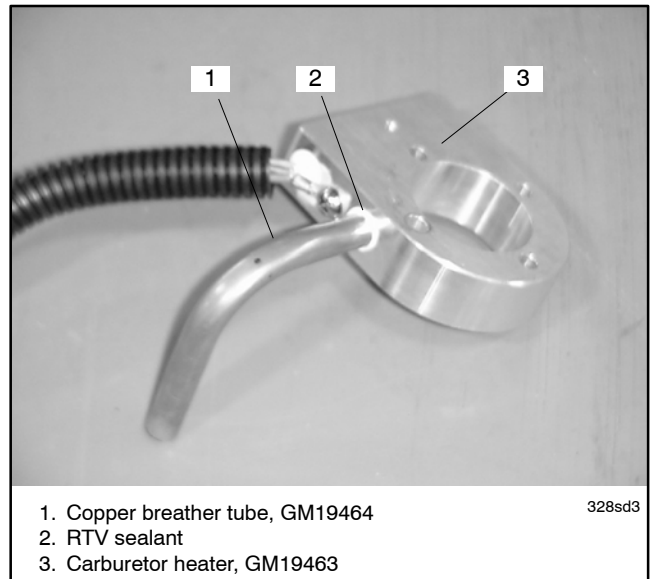

Figure 6 Heater with Copper Breather Tube
- 4.1 Apply RTV sealant to the end of the copper breather tube, GM19464 (included in the kit), and insert it into the drilled hole in the heater, GM19463. See Figure 6. Press the breather tube approximately 0.4 inches into the heater plate so that the end of the breather tube is flush with the inside diameter but does not extend into the large opening of the heater.